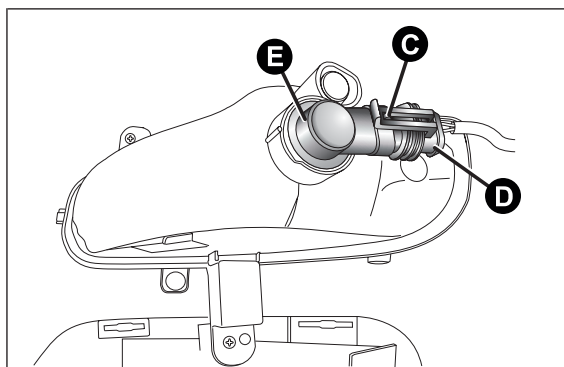

fig. 120
- ☐ adjust the catch C fig. 120 and disconnect the electrical connector D;